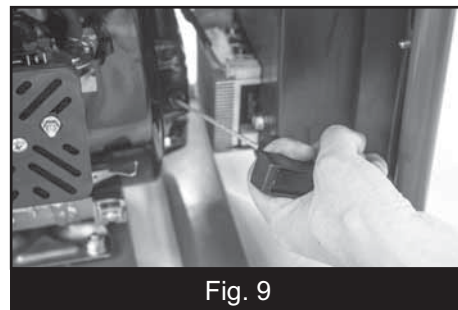

Fig. 9
4. Hold down the generator firmly with one hand on the frame. With the other hand grip the recoil starter cord handle (Fig.9) and pull and return the rope gently 3-4 times to let the engine breath in the fuel mixture from the carburetor. Pull the cord sharply. Continue this procedure until the engine starts.